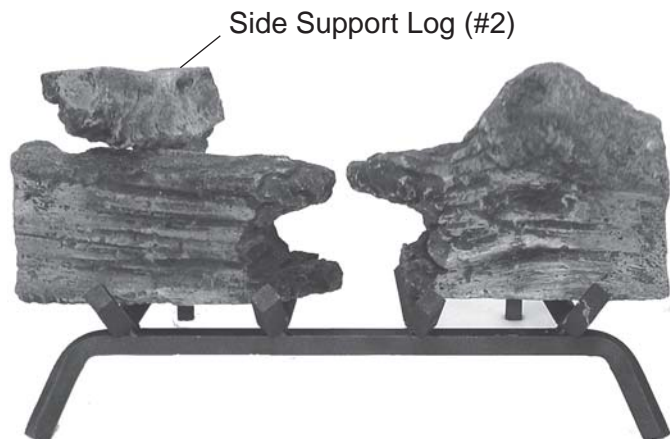

Figure 95 - Placing Side Support Log (#2) on Top Left of Log #1A
4. Place front end of Side Support Log #2 on top left of Log #1A. Rest other end of Log #2 on rear grate bar. *See Figure 95.*